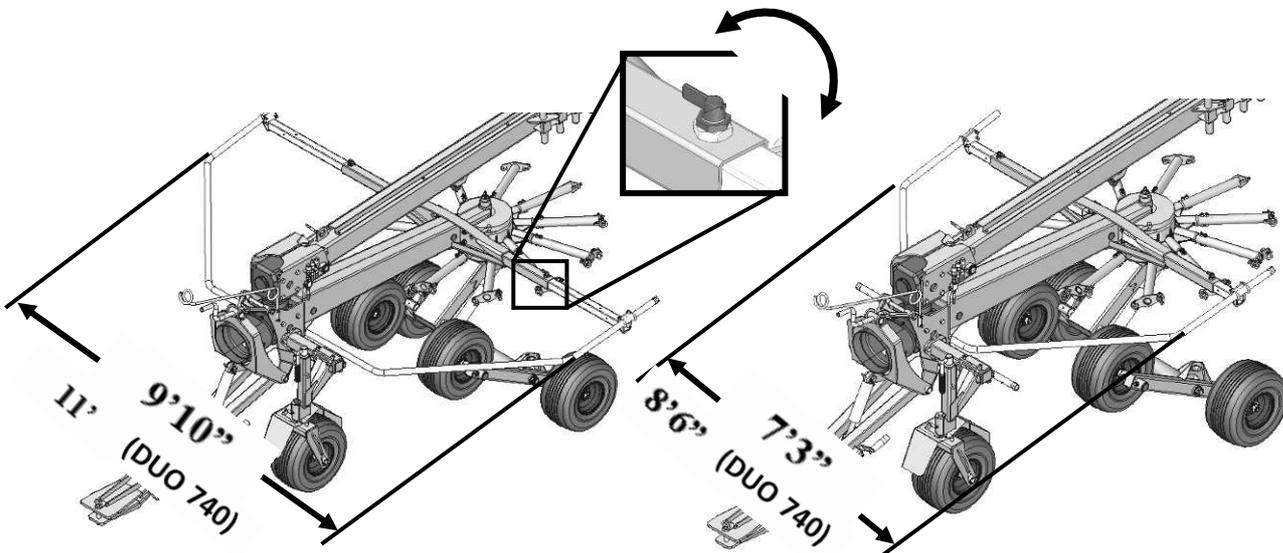

Fig. 20. Transport position of front rotor's guard
- Unlock, push-in and again lock safety guards of the front rotor (Fig. 20),
- ❑ Unlock and retract safety guards of the front rotor by performing the opposite as given in Fig. 20,